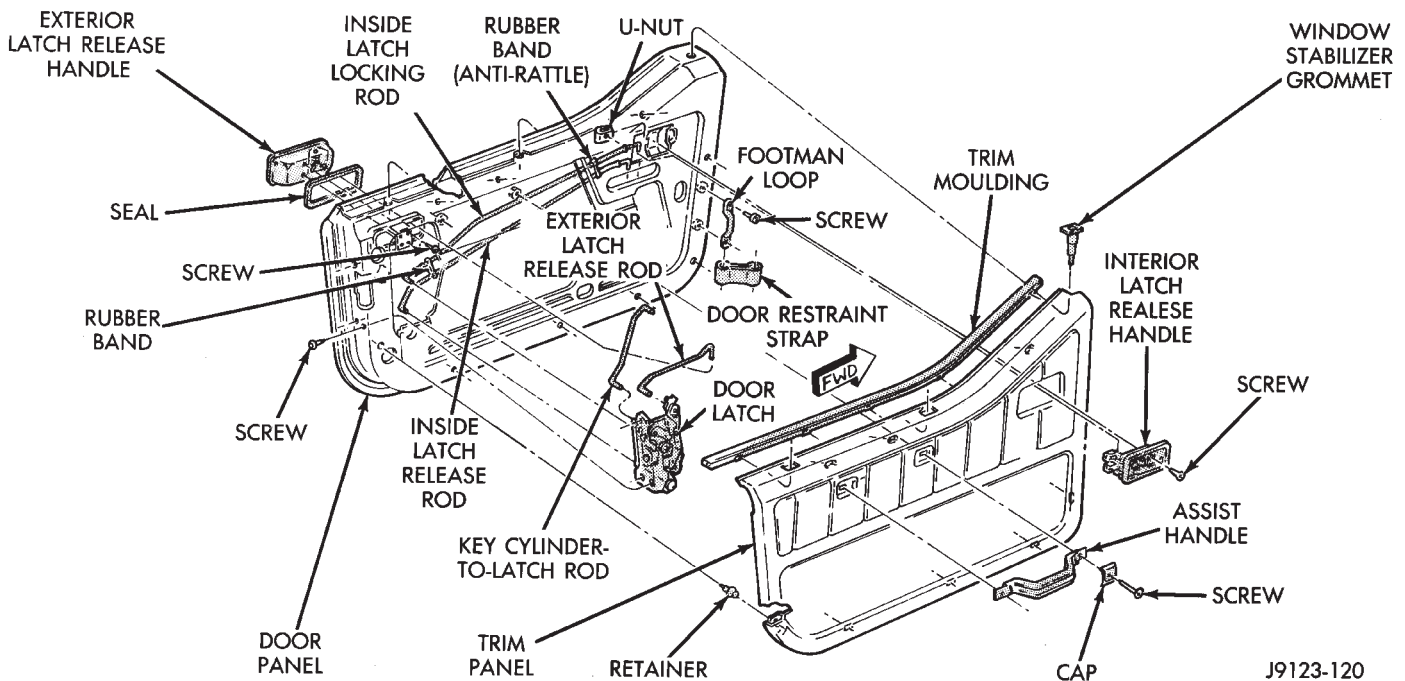
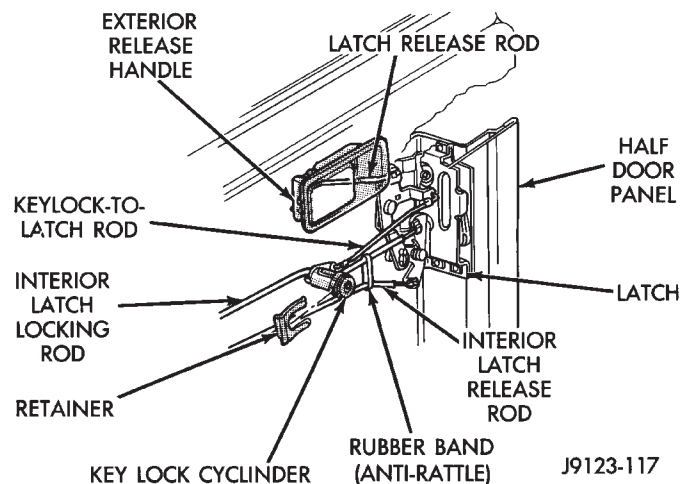

Fig. 4 Half-Metal Door Interior Trim Panel
Fig. 6 Half-Metal Door Latch
- (5) Remove the latch interior release handle (Fig. 4).
- (6) Remove the assist handle (Fig. 4).
- (7) Remove the trim panel by detaching the retainers around the perimeter of the trim panel (Fig. 4).
(8) Remove the screws from the door latch handle, disconnect the latch release rod and remove the handle (Fig. 4).
(9) Remove the door latch screws (Fig. 4). Remove the door latch with the rods attached.
(4) Position the latch in the door and install the retaining screws (Fig. 4). Tighten the screws securely.
(5) Position the door latch external release handle and install the retaining screws (Fig. 4). Tighten the screws securely. Connect the latch release rod to the external release handle and the key lock-to-latch rod (Fig. 6).
- (6) Install the interior trim panel (Fig. 4).
- (7) Connect the latch release rod to the door latch interior release handle and install the handle (Fig. 4).
- (8) Install the assist handle (Fig. 4).